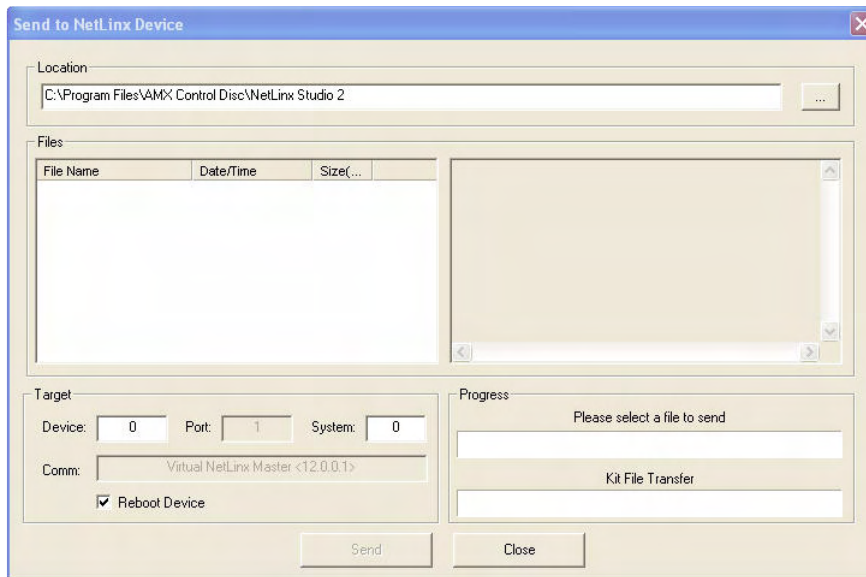

FIG. 93 Send to NetLinX Device dialog window
7. Select **Tools** > **Firmware Transfers** > **Send to NetLinX Device** from the main menu to open the *Send to NetLinX Device* dialog (FIG. 93). Verify that the panel's System and Device number values match those values listed within the System folder in the **OnLine Tree** tab of the Workspace window.